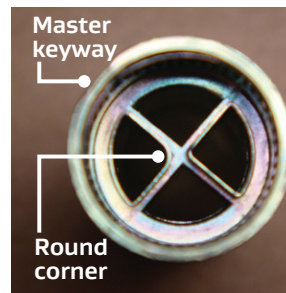

Figure 38: Mating face of connector body
25. To install the connector insert into the connector body, line up the section of the connector insert with the round corner in the center to the section divider of the connector body with the round point. The master keyway should be to the right of the section with the round point (Figures 38 and 39). You will need to look at the mating face of the connector body as the insertion face of the body has no round point.